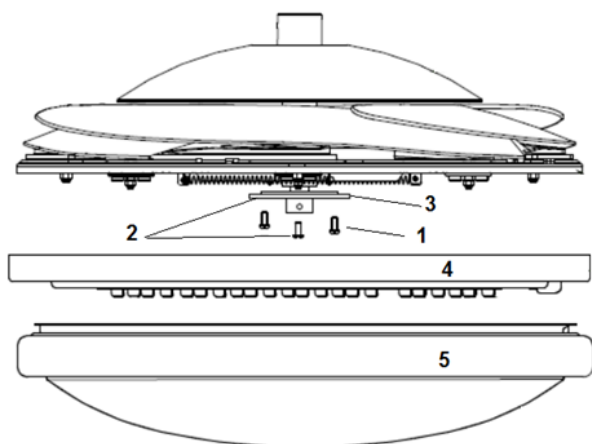

Fig. 6
2. Loosen the screw (1) from the base bracket (3). Align the two slot screws (2) with the keyhole slots of the lamp base (4). Fig.6
6. Finally install the lamp shade to the lamp base by turning it clockwise (5 – Fig.6).